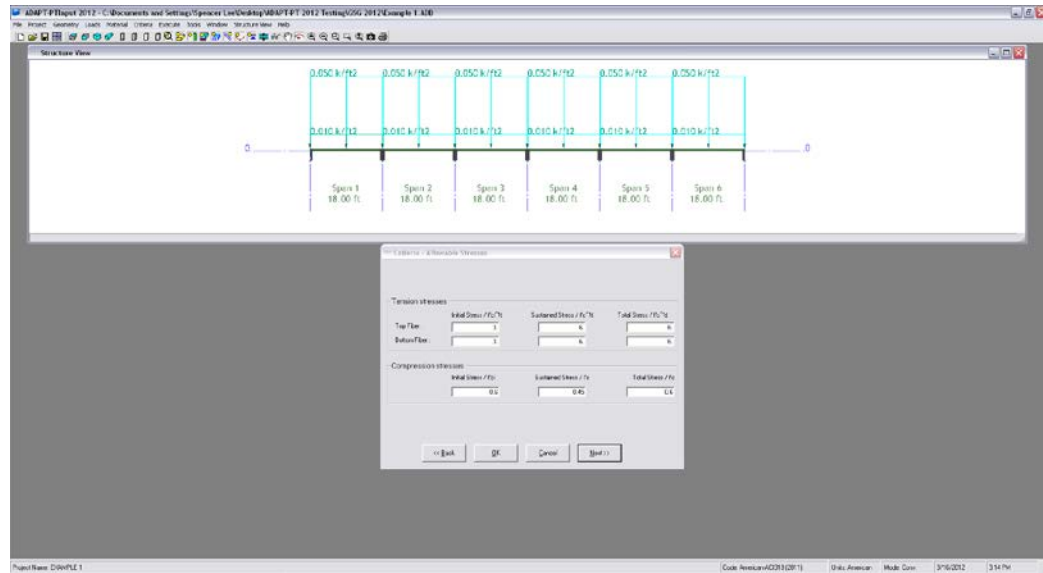

FIGURE 2.1-14
2.1.5.1 Enter The Initial And Final Allowable Stresses. (Fig. 2.1-14)